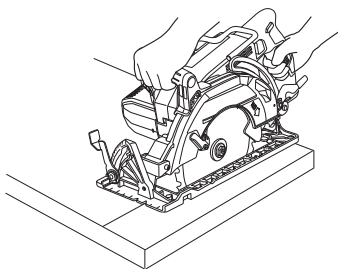
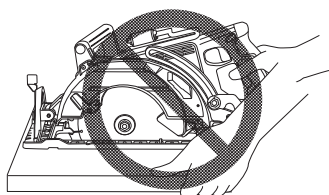

Fig. 2
Fig. 3
4. **Place the wider portion of the base on that part of the work piece which is solidly supported, not on the section that will fall off when the cut is made.** As examples, Fig. 2 illustrates the RIGHT way to cut off the end of board, and Fig. 3 the WRONG way. If the work piece is short or small, clamp it down. DON'T TRY TO HOLD SHORT PLACES BY HAND!